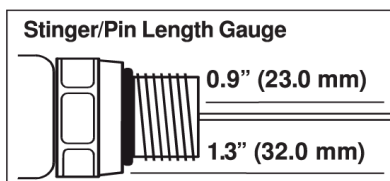

Figure 4: Stinger/Pin Length Gauge Diagram
5. Press the “SET” push button on the device to access the setup menu. Press “SET” again to advance to the next parameter in the menu. Press “UP” or “DOWN” keys to change the value of the parameter. See Figure 4 for setup menu parameters and flow chart.
11. Measure the upstream optical power (1240 to 1620nm; except 1540 to 1560nm) from the subscriber ONUs at XTENDR subscriber ports using optical power meter. Ensure the upstream optical power is within -9dBm to +3dBm. Adjust the “OP” Optical Input Upstream Power parameter (Figure 4) for the average upstream optical input power at XTENDR. This will optimize the system for best Carrier to Noise (CNR) performance and also make sure the upstream receivers are not over driven. For e.g. If the average upstream optical input power on all ports is around -3dBm, then set “OP” value to “-3”.